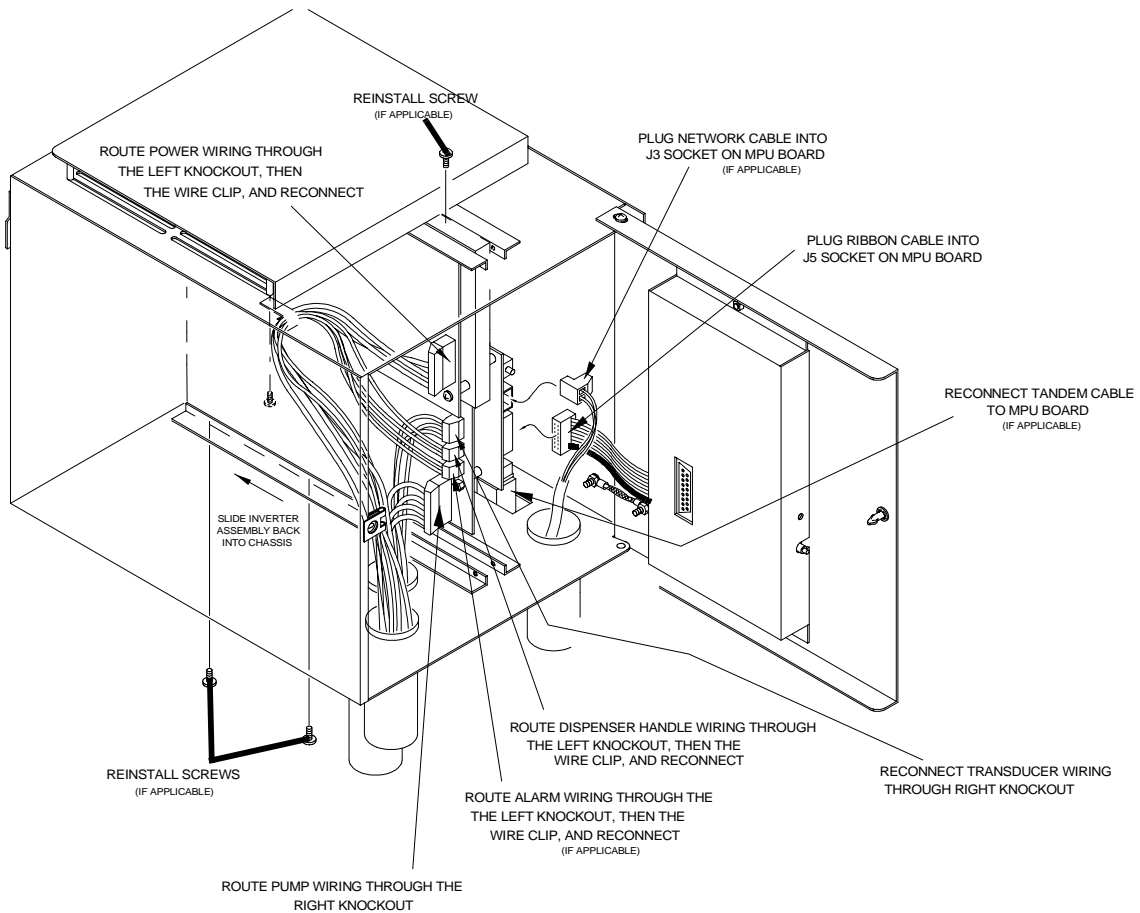

Figure 3 Reinstalling and reconnecting the inverter board assembly
- 12 Reconnect the AC input and dispenser signal wiring by routing through the left front conduit, up through the clip and down to the proper connectors. (Refer to figure 3)
- 13 Route the pump wiring and transducer cable through the right rear conduit and reconnect to the proper terminals. See figure 3.